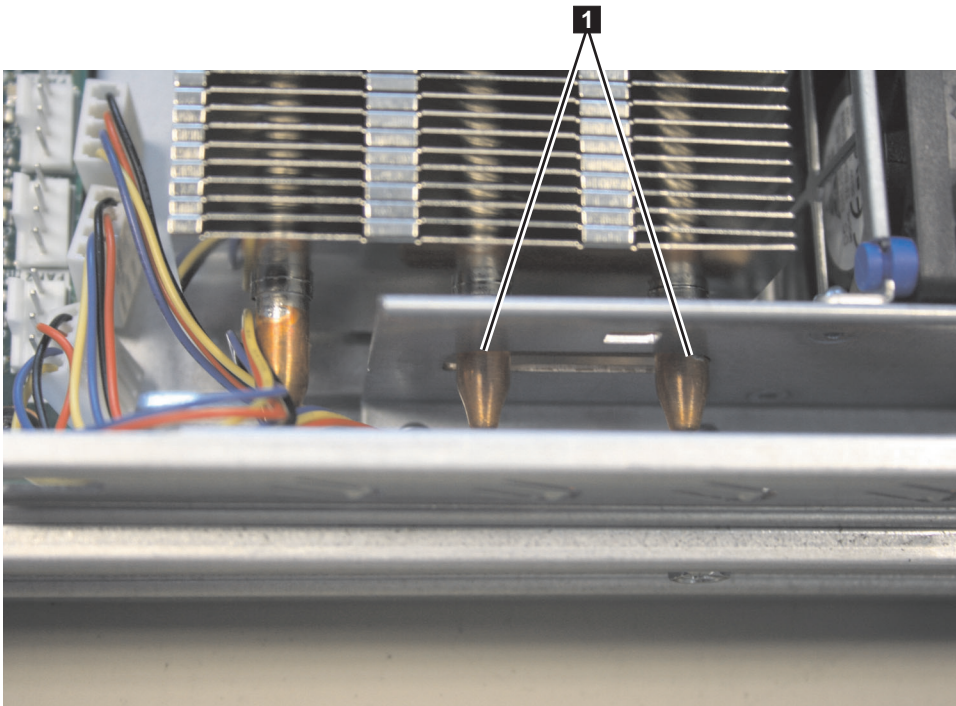

Figure 266. Alignment pins on the SAN Volume Controller 2145-8A4 heat-exchanger assembly
5. With the heat-exchanger assembly at an angle, carefully align the heat-exchanger assembly with the microprocessor and the heat exchanger retention module (socket) on the system board. Make sure that the alignment pins **1**, shown in Figure 266, protrude through the alignment hole (the opening in the side of the heat-exchanger bracket) and that the flange of the heat sink rests under the lip of the heat-exchanger socket.